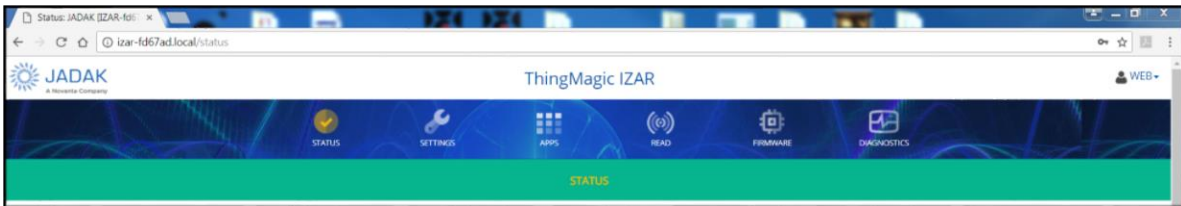

Figure 7: Initial Web Interface Screen
- Figure 7: Initial Web Interface Screen 13